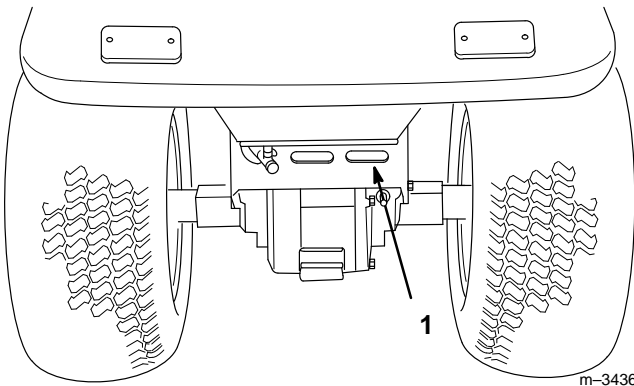

Figure 10
5. The rear transaxle cover is an air intake area for cooling the transaxle. Clean debris from the rear transaxle cover before operating the tractor (Fig. 10).